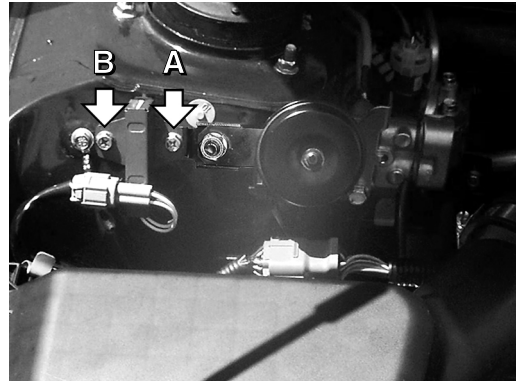

Figure 1
2. Remove the bolt (M8) indicated by arrow A in Figure 1 and loose the bolt (M8) indicated by arrow B.